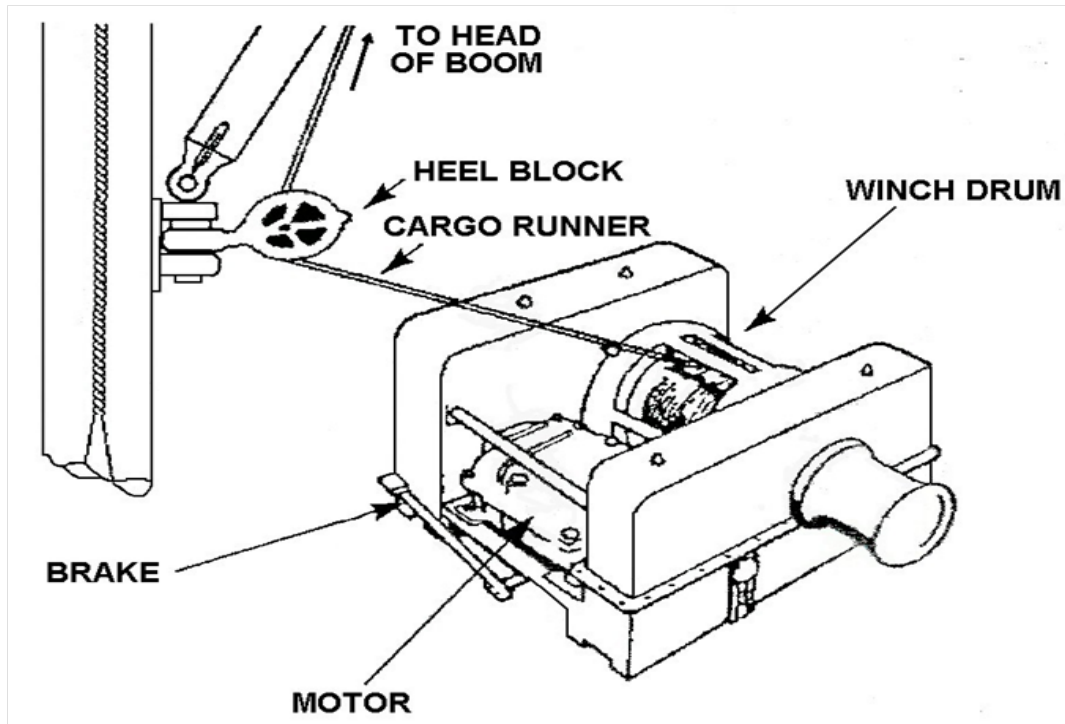

Figure 3-31
a. Inspect winches to ensure runners are wound in correct direction over the top of the drum and free of foreign objects (such as dunnage, paper, rags, and trash) (see Figure 3-31).